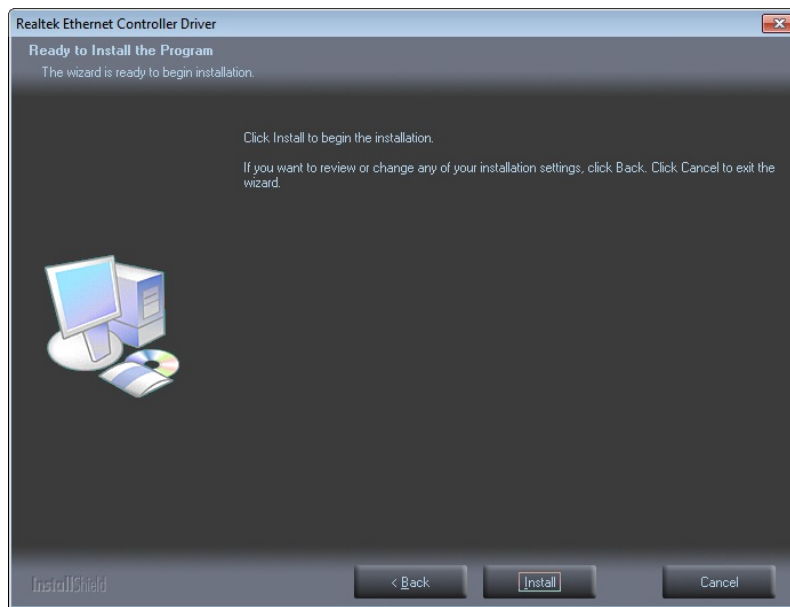

Figure 6-13: LAN Driver Installation
Step 7: The **Ready to Install** screen in **Figure 6-13** appears.